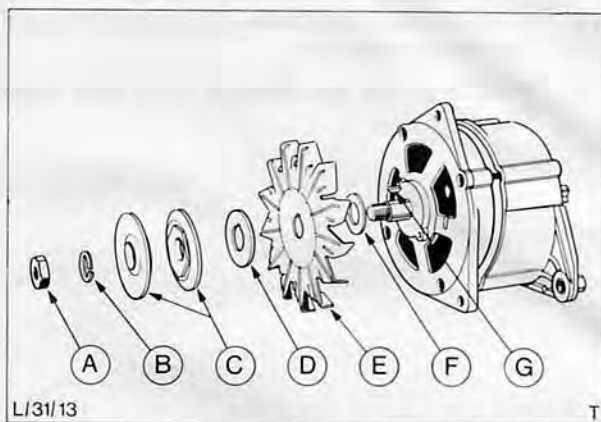

Fig. 28. Fan, pulley and associated components
21. Refit thrust washer, fan, spacer, pulley, lock washer and retaining nut, assembling the components as shown in Fig. 28.